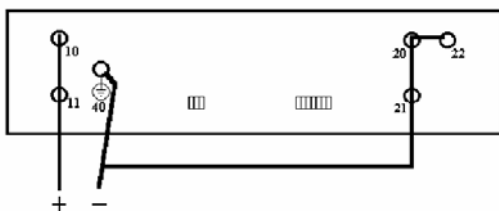

Figure 7. Input to output and input to case isolation voltage test.
- Connect your isolation tester between input and case. See Figure 7. Raise the voltage of the isolation tester from 0 to  $2000\text{Vd.c}$ . Check that the leakage current does not exceed  $5\mu\text{A}$ . The voltage should not be applied for more than a few seconds or the Y-capacitors might be damaged.
- Connect the output terminals of the converter to case. See Figure 7.
- Connect your isolation tester between input and case. See Figure 7. Raise the voltage of the isolation tester from 0 to  $2500\text{Va.c}$ . The voltage should not be applied for more than one (1) minute or the Y-capacitors might be damaged.